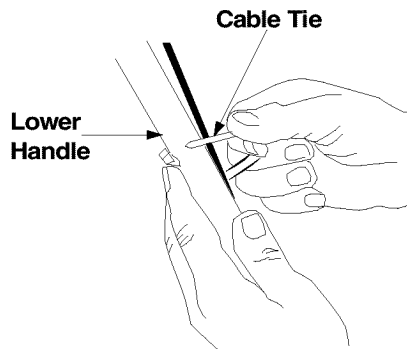

Figure 6
- Attach cables to the lower handle with the two cable ties already on the lower handle, insert pegs on cable ties into the holes on the lower handle. Pull cable ties tight and cut off the extra. See Figure 6 .